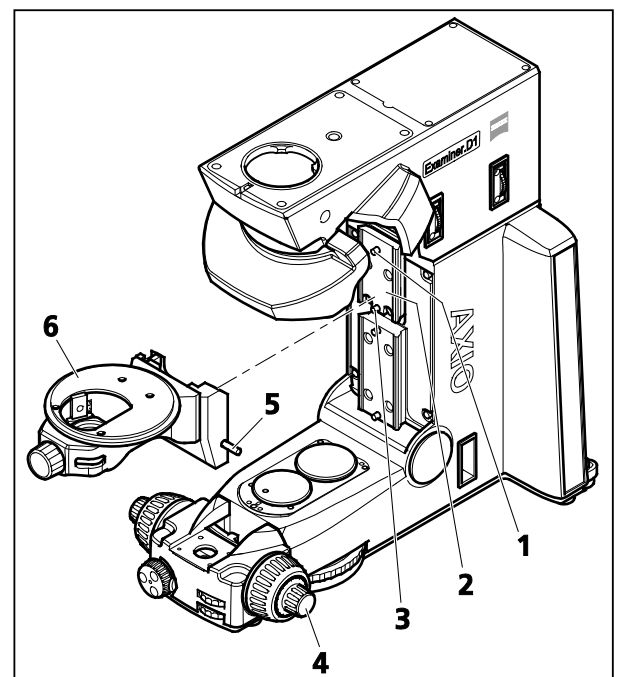

Figure 3-9 Installing an objective mount or objective nosepiece
- For installation, move to the lowest Z position possible using the pinion knob (Figure 3-9/4).
- Hold the objective mount or objective nosepiece (Figure 3-9/6) with your left hand, and slide it in a slightly oblique position on the left-hand side first into the upper dovetail guide (Figure 3-9/2) at the stand.
- Put the objective mount or objective nosepiece on the lower stop screw (Figure 3-9/3).
- Tighten the clamping screw (Figure 3-9/5) with your right hand.
☞ If the adapter is used for expanding the specimen area (430030-9100-000), push the objective mount or objective nosepiece against the upper stop screw (Figure 3-9/1).